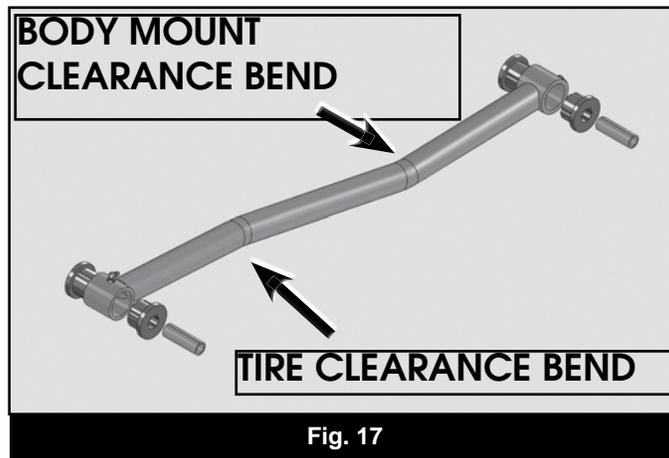

Fig. 17
40. Grease and install the bushings and sleeves into the lower longer control arms. *note 2003-2009 models require 16mm ID sleeves, 2010 models require 18mm ID sleeves in the axle end of the lower control arm. Install the grease zerks into control arms. All grease fittings are 90 degree fittings, rotate so they will be accessible once installed. (DRV Upper arm shown - Fig 17 & 18)